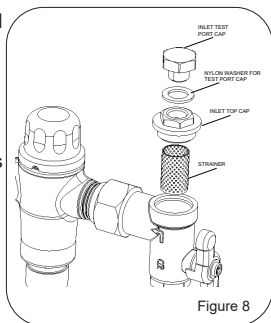

Figure 8
- Remove the inlet fitting top cover with a suitable spanner and then remove the mesh strainer, as shown in Figure 8